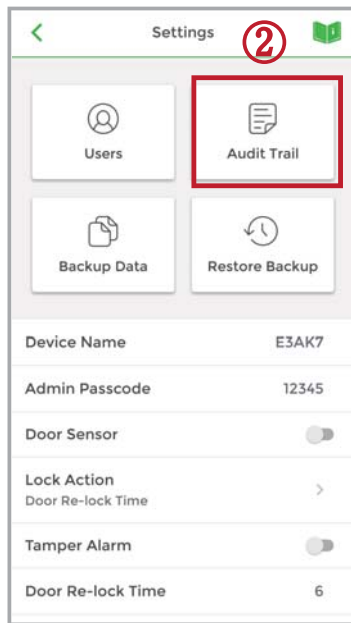
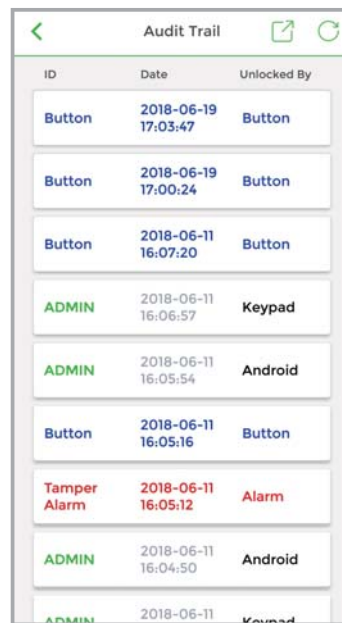

Figure 4
Figure 5
- (D) Scheduled : To assign repeatedly access on specific days and hours for a certain period of time. This setting is useful for house cleaners or constructors who need temporary access on regular basis. (See Figure 4 and 5 next page)
### ② Audit Trail : (See Figure 4 and Figure 5 next page)